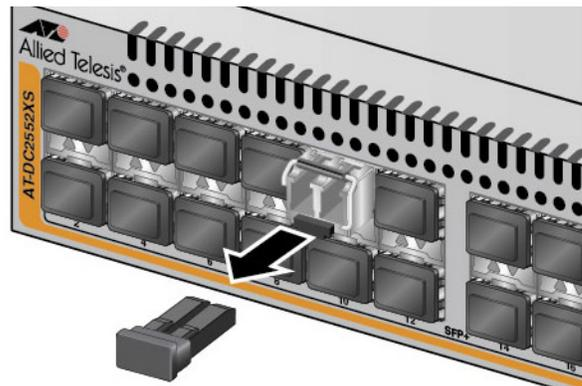

Figure 27. Removing SFP+ Dust Cover
6. Remove the dust cover from the module. See Figure 27.